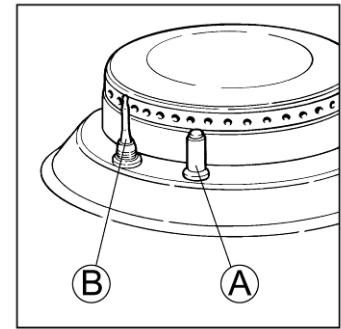

Fig. 7
- **Electric lighting of the burners with safety device** - The cook-top is equipped with electric ignition of the burners by means of spark plug "A" (Fig. 7). The spark plug operates when the push-button on the control panel is pressed. This button is marked by symbol ✱ (spark). To ignite the burner press the electric ignition push-button and, at the same time, press and turn in an anticlockwise sense the knob of the burner that is to be started to the symbol 🔥 ✱ (large flame/ignition spark). Release the electric ignition push-button once the flame has appeared and keep the gas cock knob pressed for about 6 - 8 sec., so as to let the safety thermocouple "B" heat-up. Release the knob and turn it to the position desired.